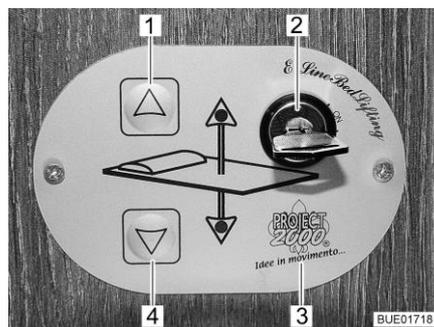
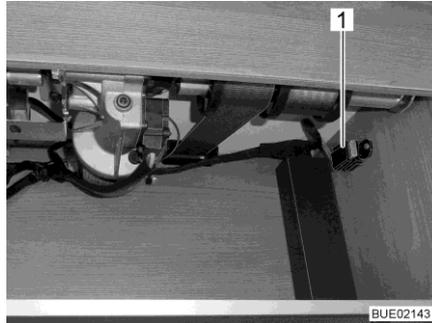

Fig. 144 Control unit
Fig. 148 Fuse
Control unit The pull-down bed is raised or lowered using the buttons (Fig. 144,1 and 4) on the control unit (Fig. 144,3). The control unit is protected against unauthorized use with the key switch (Fig. 144,2).
- Turn the key in the key switch (Fig. 144,2) through 90° clockwise. The control unit (Fig. 144,3) is activated.
- Press the arrow key (Fig. 144,4) and keep it pressed until the pull-down bed has moved down into the desired position.
- Press the arrow key (Fig. 144,1) and keep it pressed until the pull-down bed has moved down into the final upper position.
If it is no longer possible to move the pull-down bed with the arrow keys (Fig. 144,1 and 4), first of all check the fuse in the rear wall-mounted cupboard (Fig. 148,1). If the fuse is okay and it is still not possible to move the pull-down bed, the pull-down bed can be operated manually.